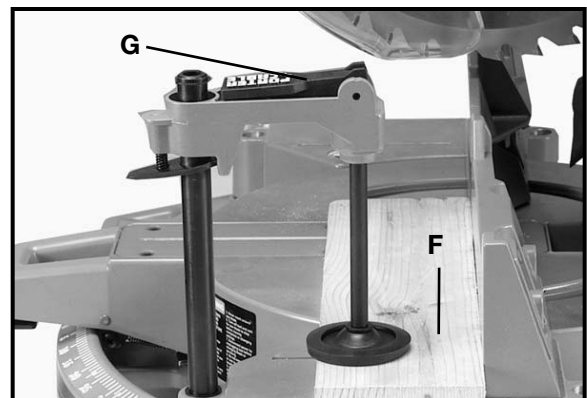

Fig. 22
3. To clamp the workpiece (F), Fig. 22, tightly against the table, lower cam lever (G). After cut is complete, lift lever (G) to release the clamp.